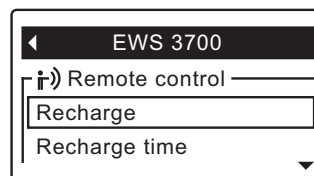

FIG. 62
2. Press the remote's SELECT (○) button to display the device menu (See Figure 62).
3. If necessary, press the DOWN (▼) button to scroll through the menu options until **Recharge** is highlighted in a box (See Figure 62).
6. Press the SELECT (○) button. The display will go back to the conditioner/refiner menu (Figure 62).